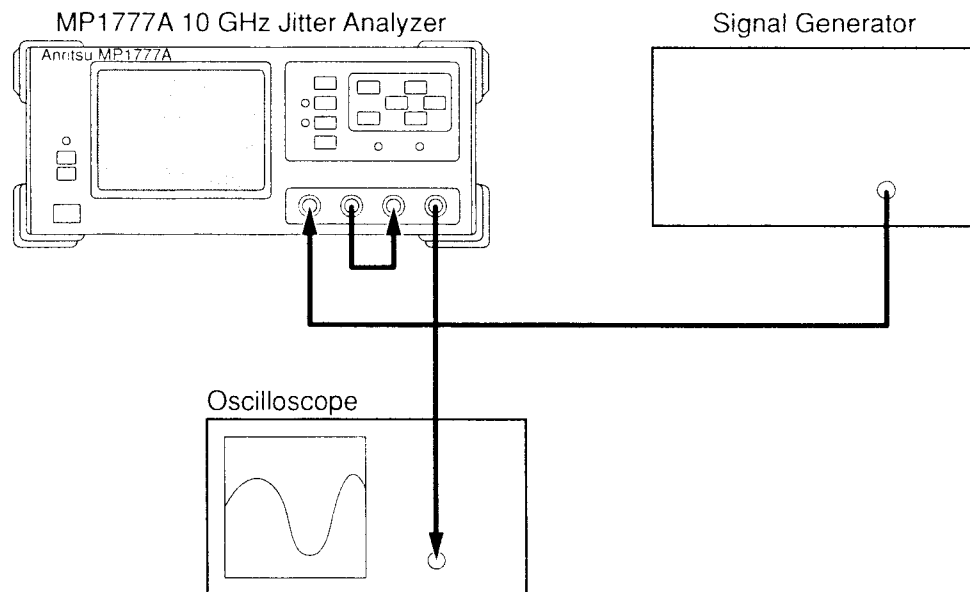

Fig. 6-4 "Demod. Output" Output Sensitivity Performance Test
- (1) Connect the MP1777A 10 GHz Jitter Analyzer, the Signal Generator and the Oscilloscope as shown in Fig. 6-4.
- (2) Set the Bit Rate to 9953M on the "Setup: Interface" screen.
- (3) Set the Tx Jitter = ON and the Range = 80 UI on the "Test menu: Manual Jitter" screen.
- (4) Set the Rx Range = 1 UI and the Filter = HP1 + LP on the "Test menu: Manual Jitter" screen.
- (5) Enter the sine wave signals of 100 kHz frequency from the external signal generator. Adjust the amplitude of the Signal Generator so that the Rx monitor on the "Result/Jitter" screen is set to 1.000 UIPP.
- (6) Check the Demod. Output using the Oscilloscope. Check that the value satisfies the standard in Table 6-4.
- (7) Change the Bit Rate on the "Setup: Interface" screen, and repeat 1 to 6 to check the sensitivity.